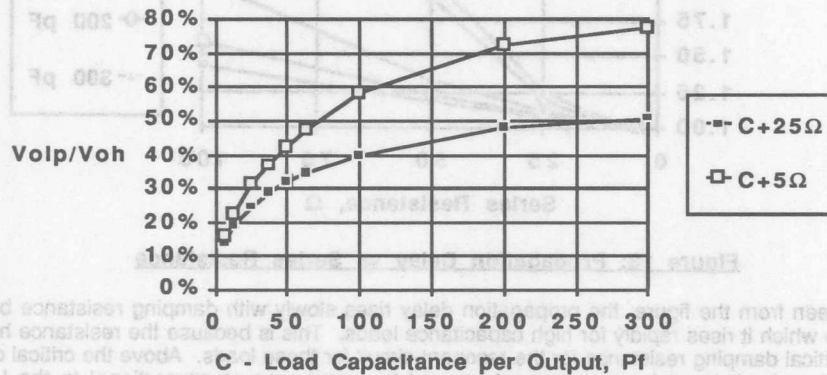
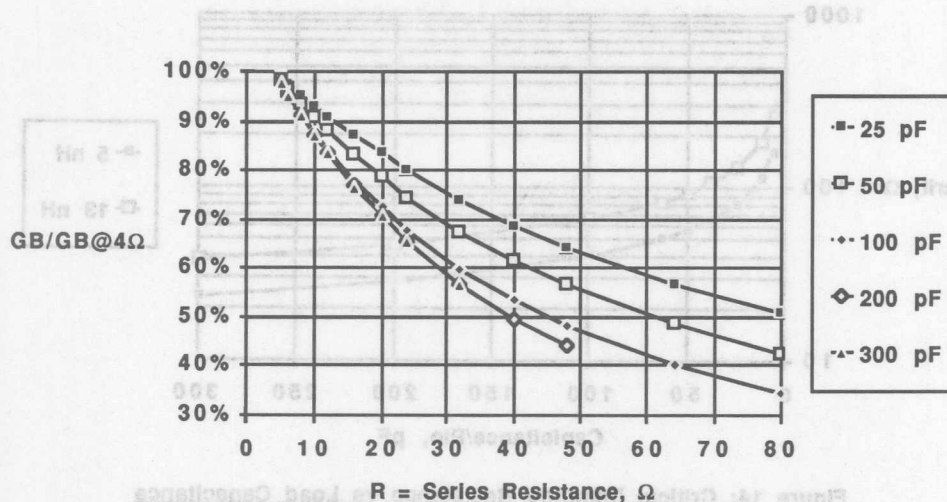

Figure 11: Ground Bounce vs Load Capacitance with Series Resistance
Figure 12: Ground Bounce vs Series Resistance
The following figures show the results of adding series resistance. Figure 11 shows a plot of ground bounce versus load capacitance for $L = 13$ nanohenries, $T_f = 5$ ns, and series resistances (R) of 5Ω and 25Ω . Figure 12 shows a plot of relative ground bounce reduction versus series resistance.